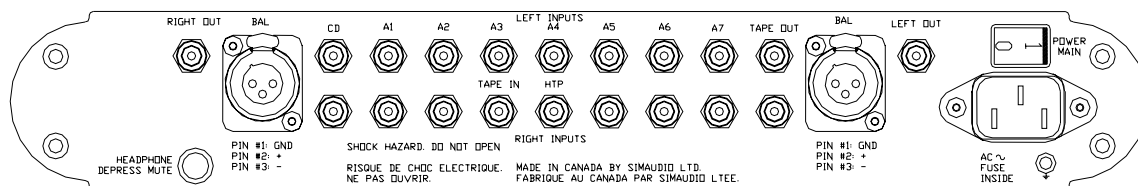

Figure 2: Rear panel of Moon P-3 Stereo Preamplifier
The rear panel will look similar to Figure 2 (above). There are eight (8) pairs of single-ended (unbalanced) inputs on RCA connectors labeled CD, A1, A2, A3, A4, A5, A6 and A7. The left channel inputs are located on top and the corresponding right channel inputs are located directly below. The A4 input, as previously mentioned, bypasses the gain stage and is intended to be used with a component, such as a home theater processor, that has its own volume/gain control.